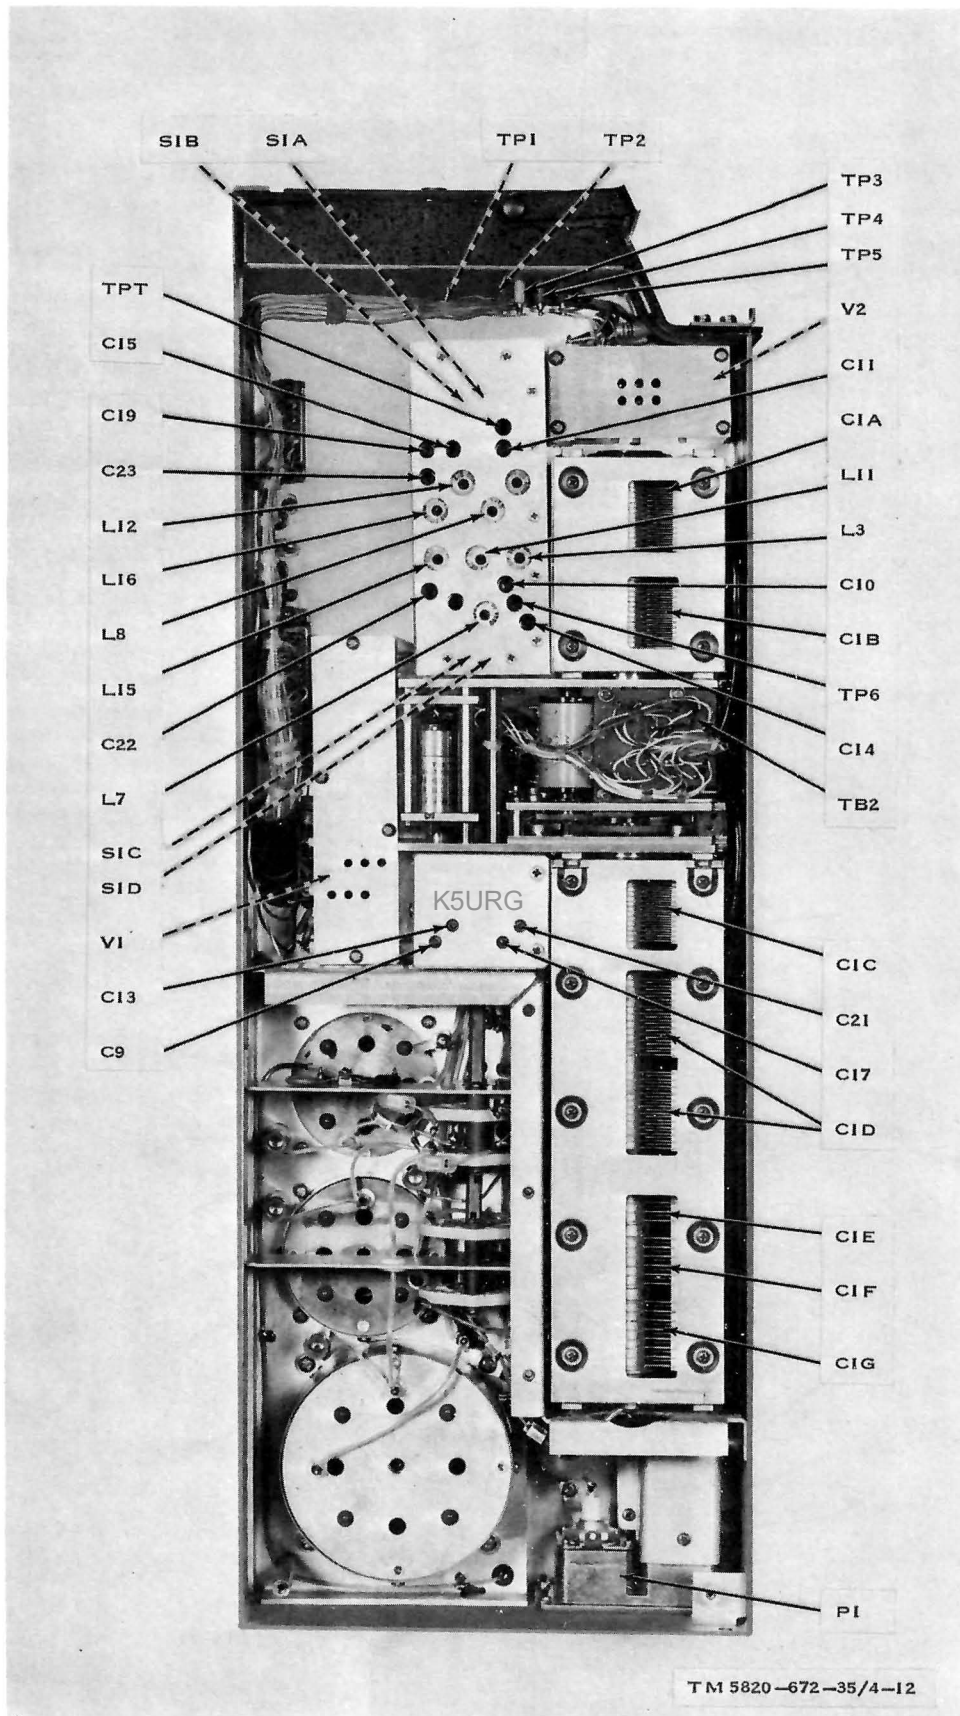

Figure 2-1. Bandpass Filter F-1138/GRC, test point location (left side).
(3) *Test points.* The F-1138/GRC is equipped with test jacks to facilitate connection of test equipment (para 2-6) to various units. The test points should be used whenever possible to avoid needless disassembly of equipment. These test points are shown on the main schematic diagram (fig. 56-6) and on the test point location diagrams (figs. 2-1 and 2-2).
b. *Conditions for Tests.* All checks outlined in the chart are to be conducted with the F-1138/GRC connected to PP-3514/U and C-7207/GRC as outlined in paragraph 2-6. Test points are illustrated on figures 2-1 and 2-2.